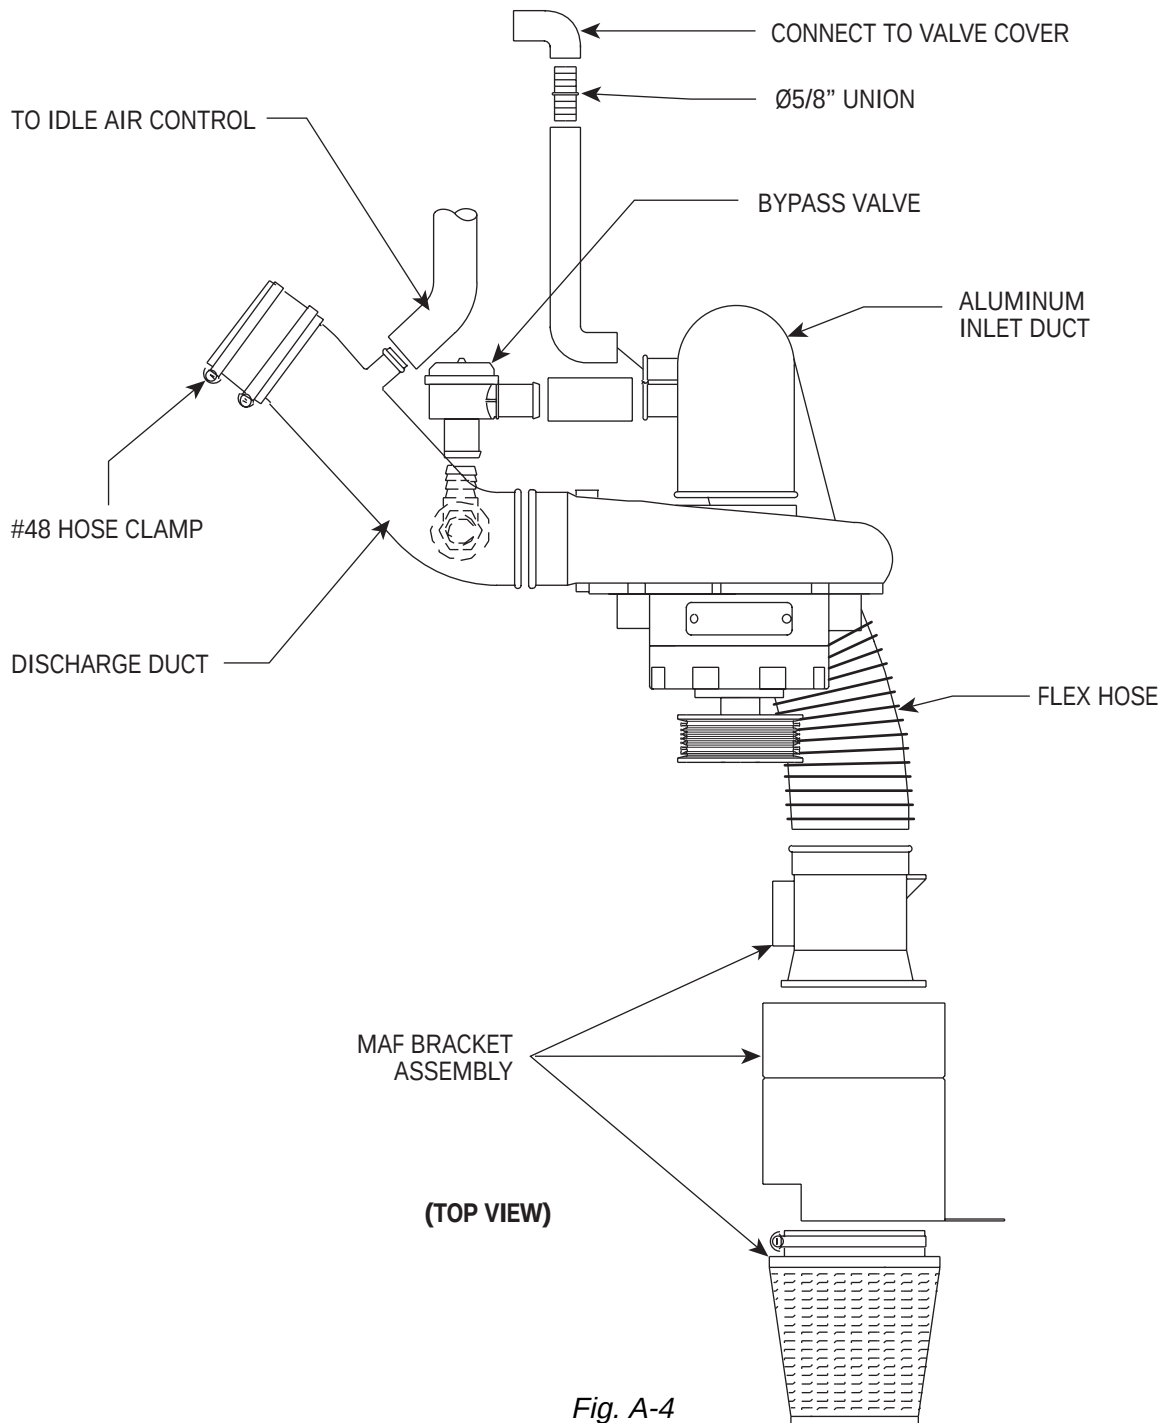

Fig. A-4
**NOTE:** Refer to Figs. A-4, A-5 and A-7 in the Appendix.